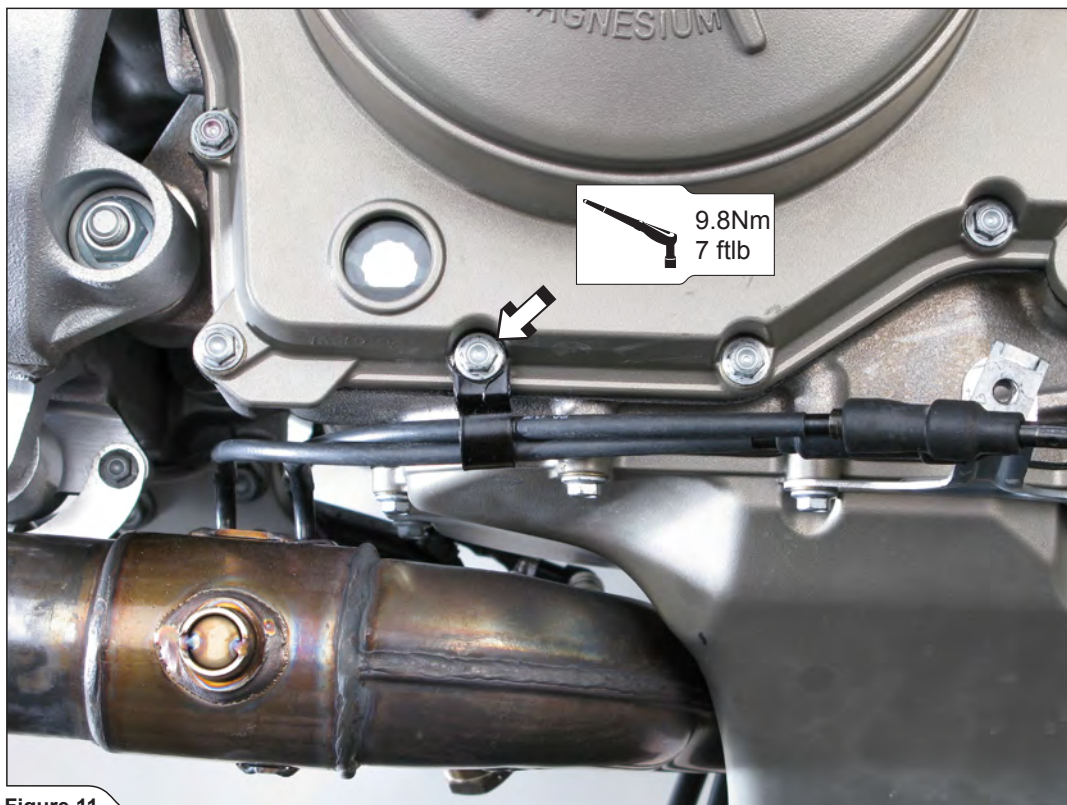

Figure 11
8. Unscrew the marked bolt and remove the bracket of exhaust valve cables. Reattach the marked bolt with tightening torque 9,8Nm / 7 ftlb (Figure 11).